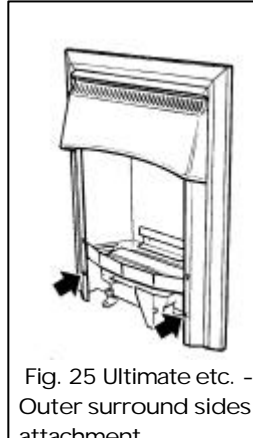

Fig. 25 Ultimate etc. - Outer surround sides attachment
9.1.2 Secure the surround sides to the convection box brackets with the two screws provided (See figure 25).